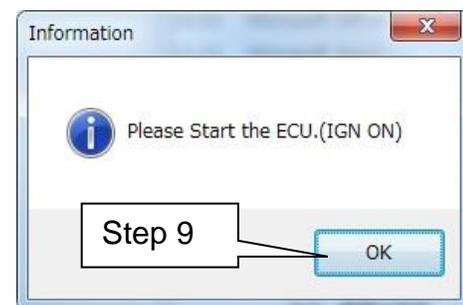

Figure 14
- **After selecting OK in Figure 14, the OCS reprogramming will start.**